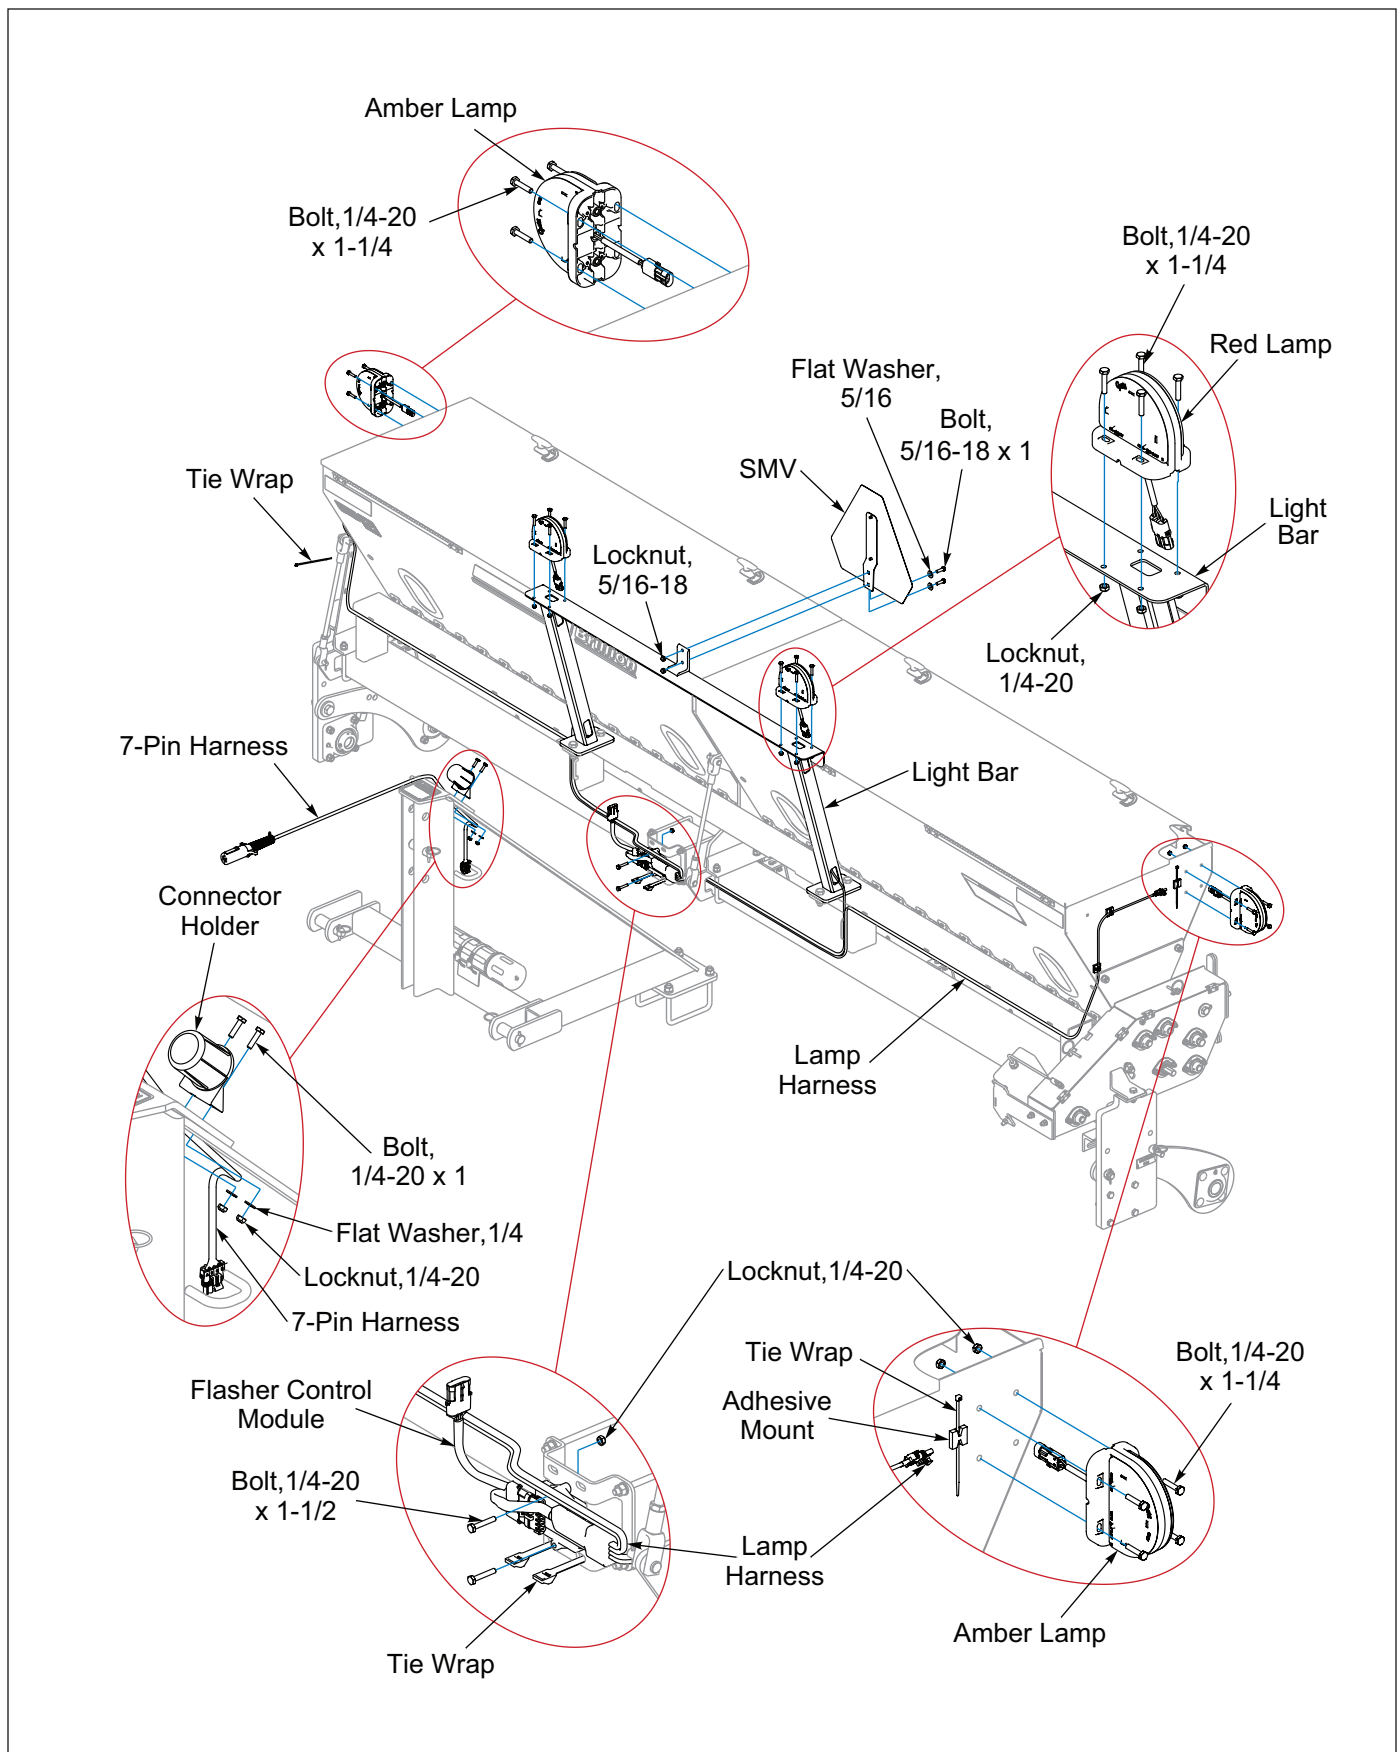

Figure 2-19: Warning Lamp Installation, 12FT
1. Place a Red Lamp at each end of the Light Bar and insert the Red Lamp Cord into the Light Bar cutout. Secure Red Lamp to Light Bar with 1/4-20 x 1-1/4 Bolts and Locknuts. **See Figure 2-19.**